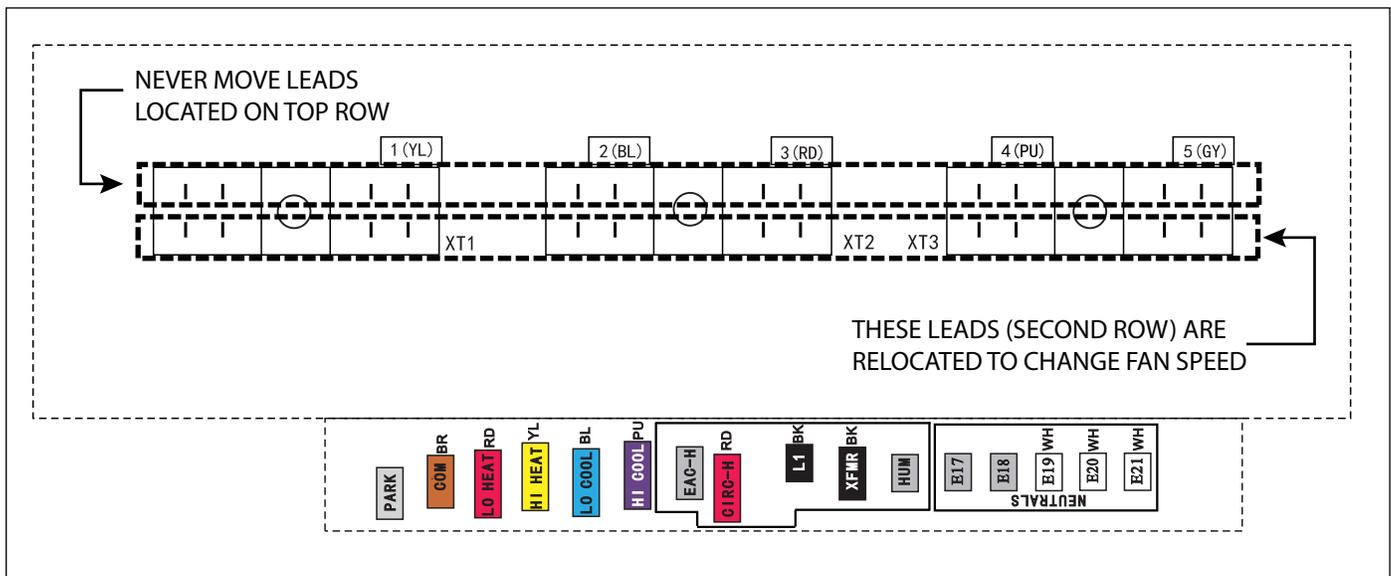

Figure 41
3. If it is necessary to change the default settings, pull out the wire leads from the second row of terminals located below the control board (refer to Figure 41). Find the correct terminal and connect the leads.